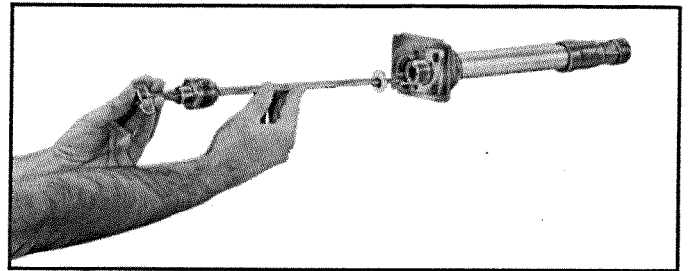

FIGURE 4
B. Use pliers. Firmly grip Cap Retainer (8) and turn counterclockwise to remove it, then remove Deflector Cover (7). *Shut off hydrant as tight as possible with Control Key (1) and use an adjustable open end wrench or channel-lock type pliers to "break" Draw Nut (11) loose, then remove it with Control Key (1), turning counterclockwise until threads are free from Hydrant Head (12). Grasp Draw Nut (11) firmly and pull toward you to remove Actuator (2) and Actuator Rod (3).* See Figure 4.